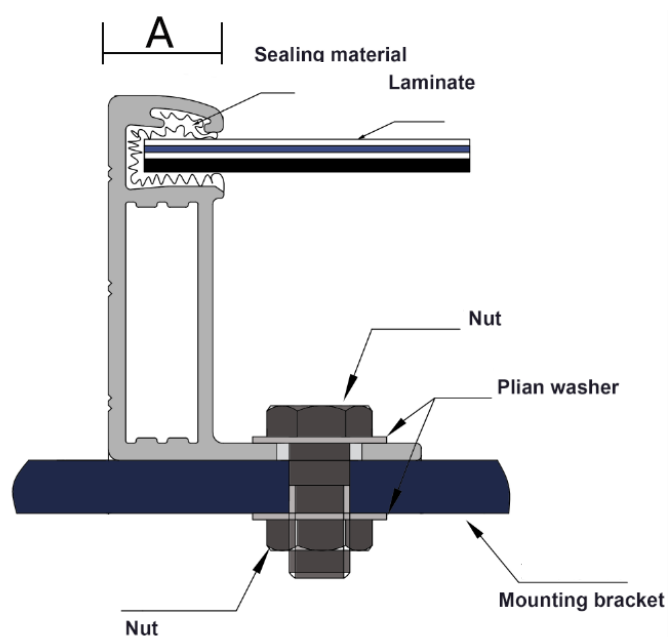

Fig. 8-1 Drawing of installation dimension
- Use anti-corrosion M8 stainless steel bolts to fix the solar photovoltaic module through the mounting hole on the frame of the solar photovoltaic module (as shown in Figure 8-1).Risen recommends that you erect solar photovoltaic modules when fixing bolts, so that the modules will not slide easily and it will be safer to use.